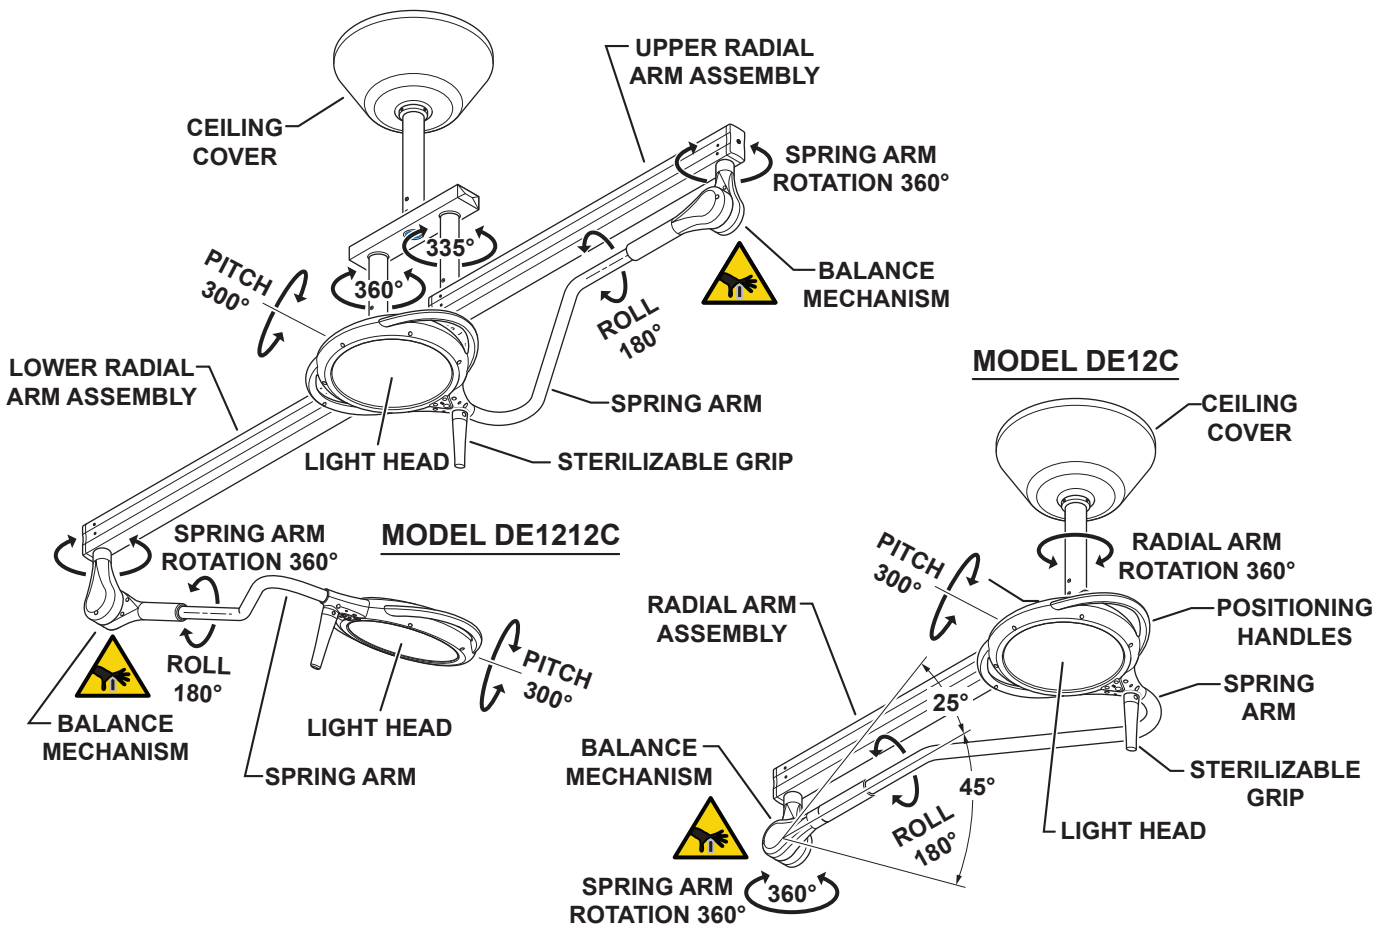

Figure 1. DE12C Single & DE1212C Dual Light Fixtures
This fixture is single-point ceiling mounted with an infinitely continuous 360° rotation capability at the ceiling mount end of the radial arm assembly (Figure 1).
1. Position the lighthouse by grasping the sterilizable grip or positioning handles and moving the lighthouse to the desired position (Figure 1).